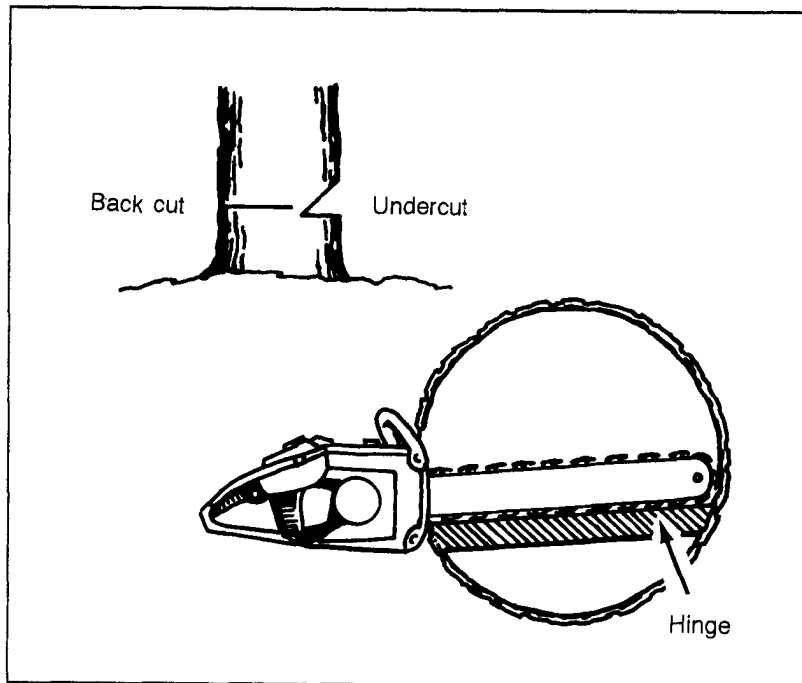

Figure 5-6. Back cut
d. *Making the Back Cut.* Make the back cut about 1 inch higher than the horizontal part of the undercut. Keep the back cut parallel with the back of the undercut, and do not let it penetrate closer than 2 inches (Figure 5-6). The back cut provides the hinge that guides the direction in which the tree falls. If the tree does not start to fall when you reach this point, start a wedge at the center of the back; remove the saw from the cut; pound home the wedge to start the tree tipping.